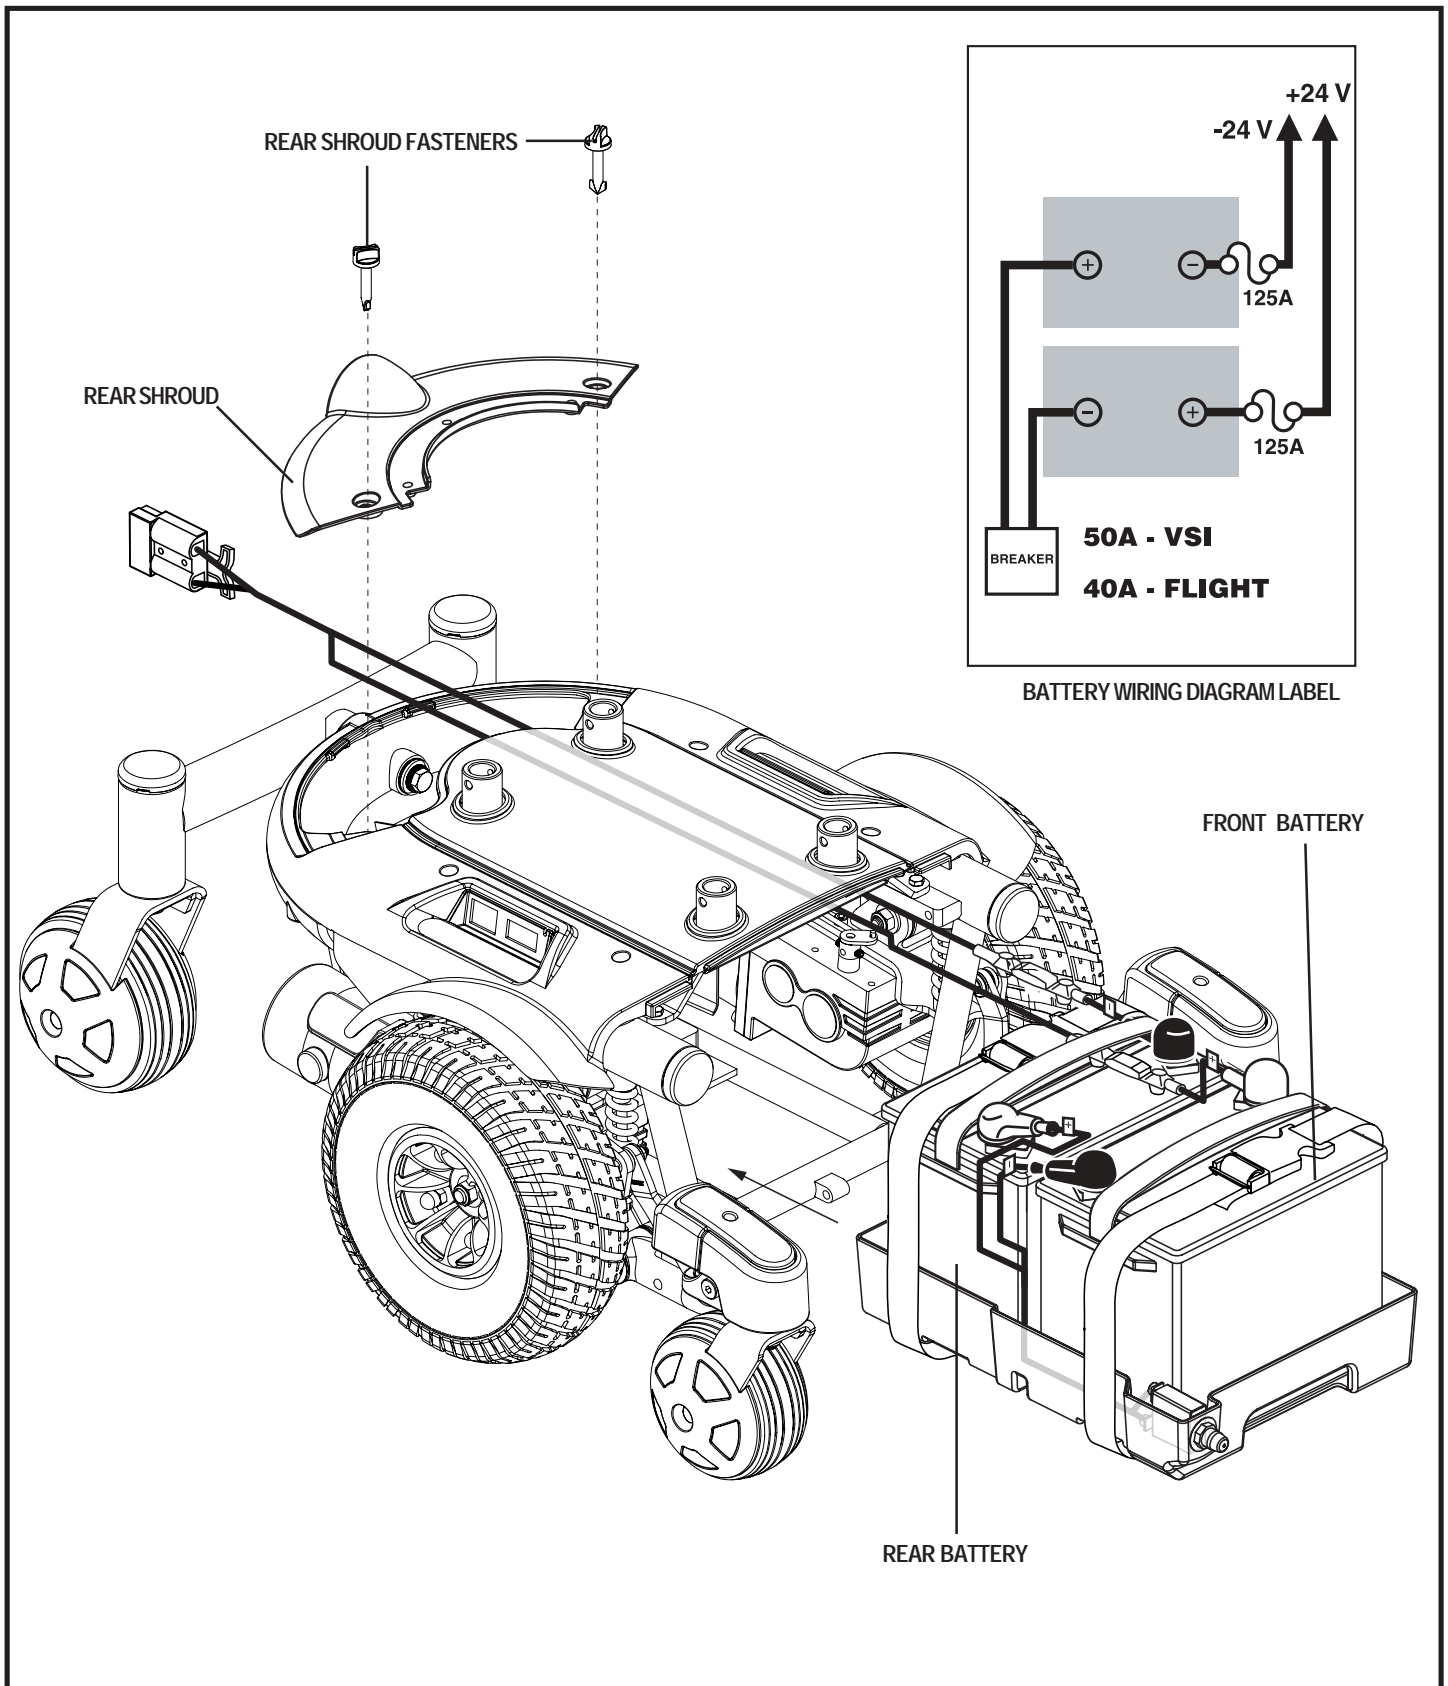

Figure 23. Battery Installation
3. Loosen the rear shroud fasteners. See figure 23.